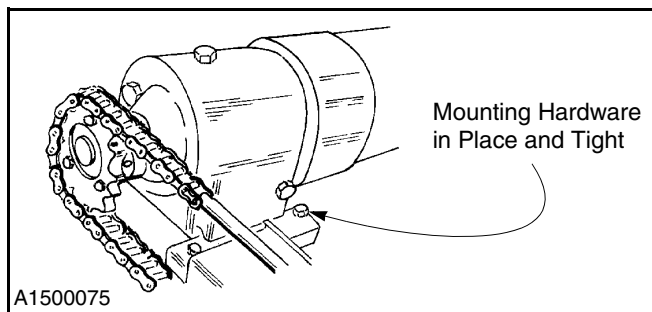

Figure 12
2. Check that the motor mount and gearbox hardware are in place and tight. (See Figure 12.)